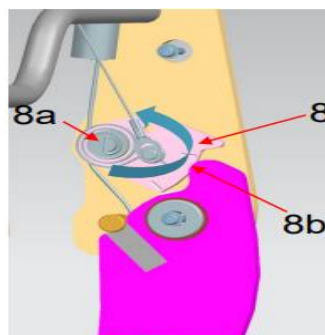

Fig 8.
8. Check and confirm that the cam (Fig 8) rotates when the easy entry handle is rotated (both cams should rotate on each leg). If the cams do not rotate, add some white lithium grease to the cam pivot (8a) and contact surface (8b) and rotate it a few times manually to spread the grease.